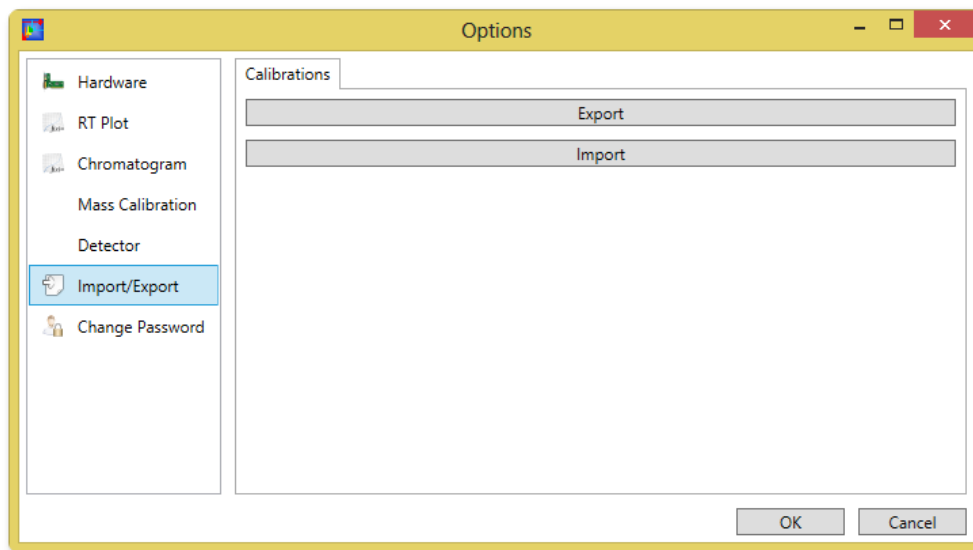

Figure 7.2 Dialog Box for the Mass Calibration Saving (“Export”) and Loading (“Import”).
Before the Mass Recalibration procedure is performed, it is strongly recommended to save the existing mass calibration. The Power User can access the dialog window for saving (Export) and loading (Import) of mass calibration through Tools->Options->Import/Export, as shown in Figure.7.2:
The MODAS software provides flexibility to calibrate the instrument based on a single or multiple spectrum/spectra. The spectrum (or spectra) used for calibration can be either acquired in real time (RT) or saved on hard-disk. MODAS maintains four types of calibrations (Low Mass/Normal Mass; Positive/Negative ion modes) that can be saved/loaded as a single calibration file (Figure 7.2).